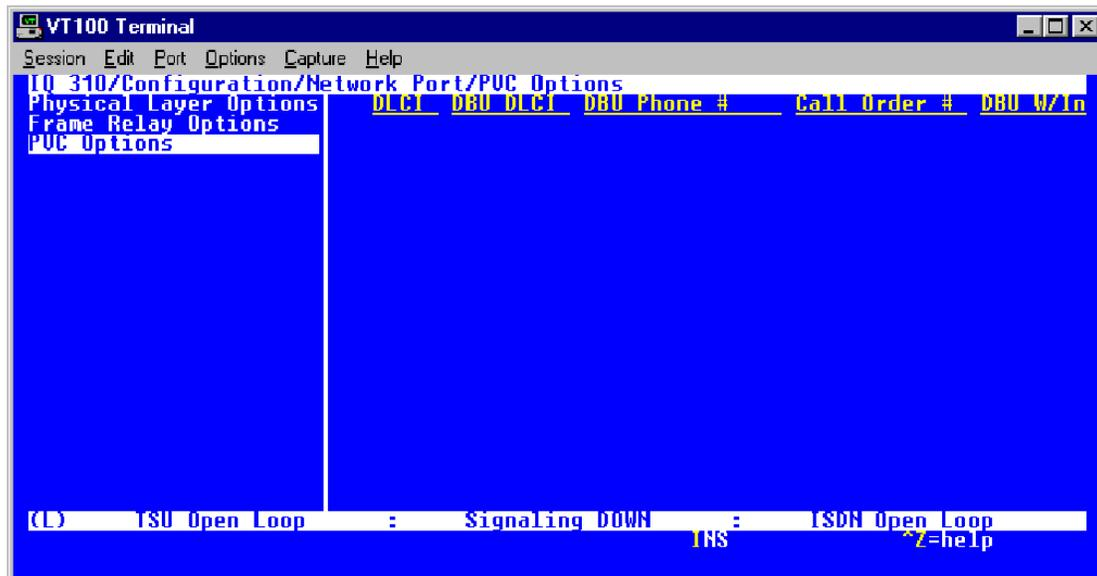

Figure 23. PVC Options Menu
3. Press the right arrow once and then down arrow until **PVC OPTIONS** is selected. Press <ENTER> and the screen shown in Figure 23 is shown.
1. From the **PVC OPTIONS** screen shown in Figure 23, use the right arrow to select **DLCI**; then press **<ENTER>**. Type in 100 and press **<ENTER>**.